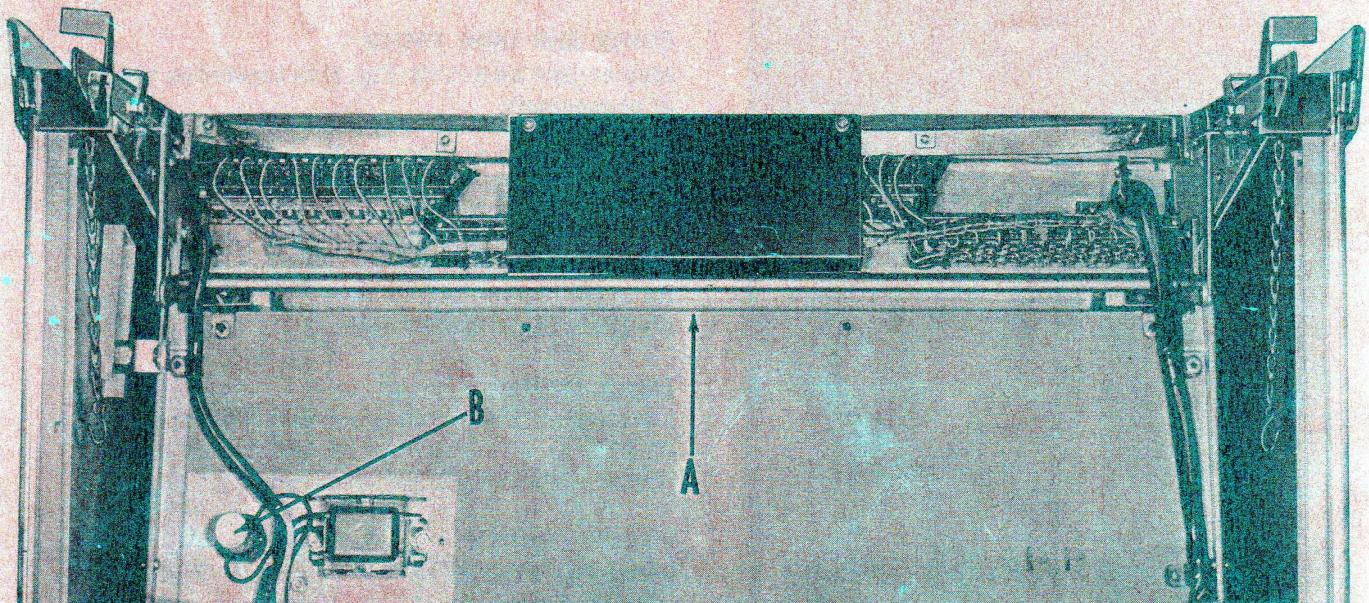

FIG. 3—Inside View of Front Door Panel
1. One 20-watt fluorescent tube supplies lighting to the front door. The fluorescent tube is located under the selector key switches (A-Fig. 3). The fluorescent light starter is under the right hand side of the fluorescent tube, adjacent to the ballast (B-Fig. 3).